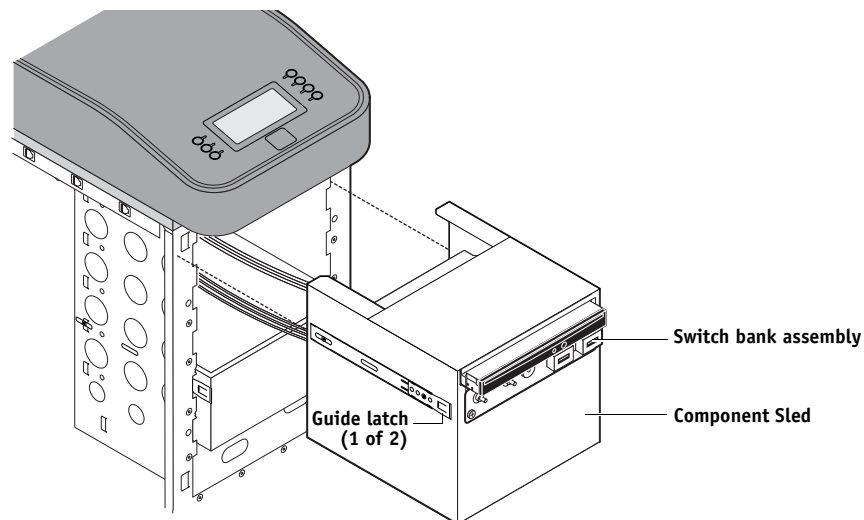

FIGURE 34: Removing/replacing the Component Sled from the chassis
3. **Install the Component Sled in the chassis (see Figure 34).**